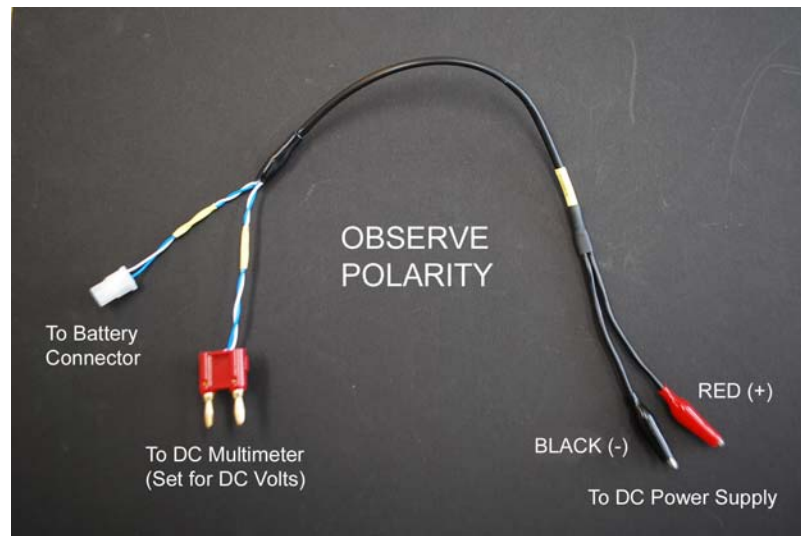

Figure 4 - Test Cable
- b) Connect the test cable 7-6909-1 to the instrument under test, the DC power supply, and the digital multimeter as indicated in Figure 4. Be sure to observe polarity on connection to DC power supply - Red (+), Black(-).